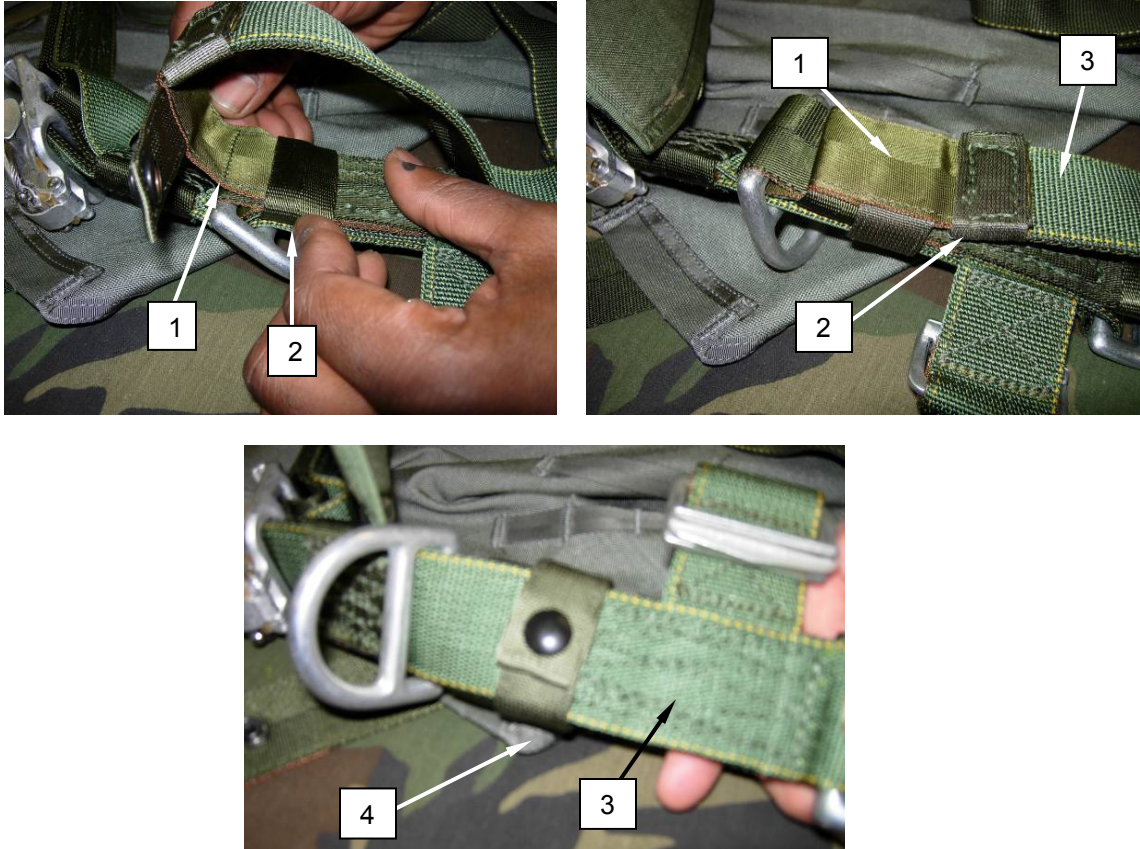

Figure 28. Upper Main Lift Web Assemblies Placed on Small Sizing Setting.
24. Properly seat the tuck tab stiffener (Figure 28, Item 1) into the small sizing retainer (Figure 28, Item 2) and secure by wrapping the tuck tab retainer around the main lift web assembly (Figure 28, Item 3) and secure the snap fastener (Figure 28, Item 4).